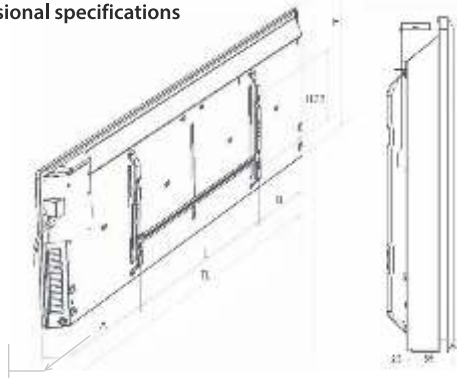

Fig. 2
Overall dimensions of the convector as per Fig.2 are given in Table 2.
3. In accordance with Fig. 2, 4 and table 2, determine the place of convector's installation observing minimum distances from objects and minimum distance from the floor.